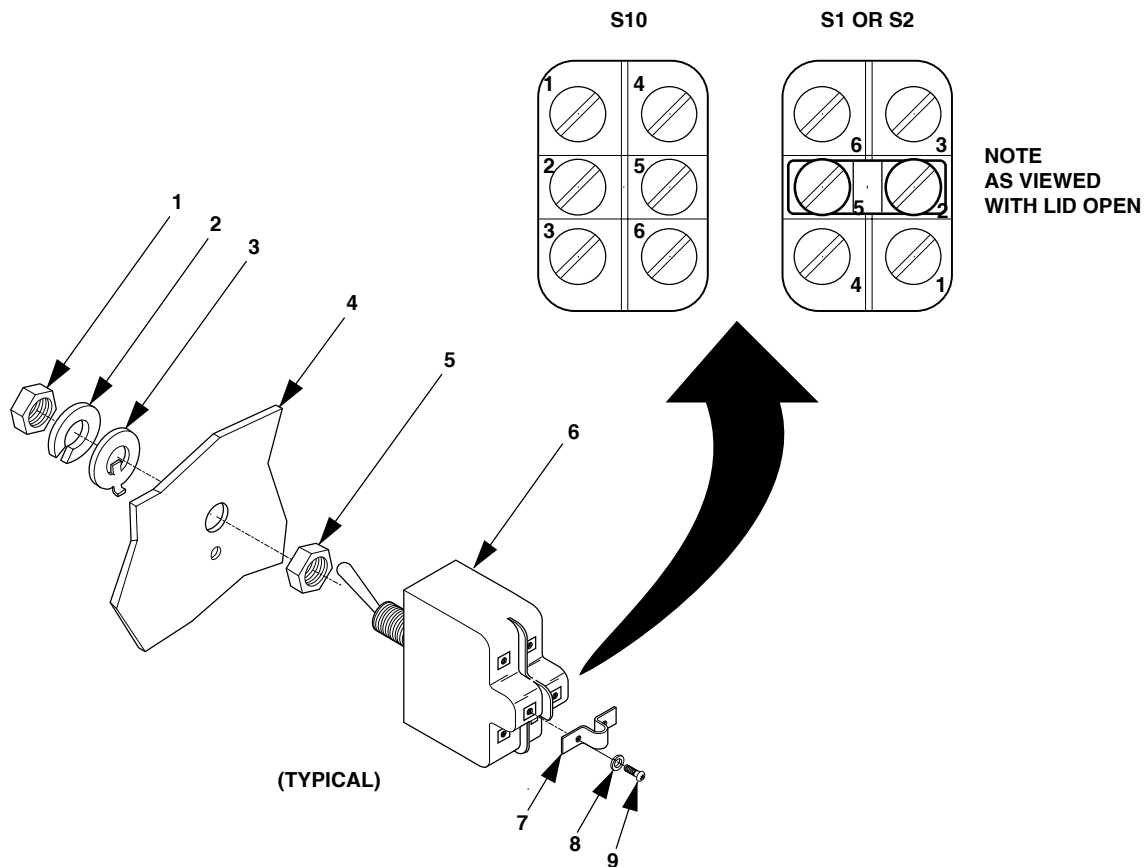

Figure 4-16. Toggle Switch.
1. Tag wires connected to terminals of switch to be replaced and remove screws (9, figure 4-16), flat washers (8), and conductor bus (7), and retain conductor bus (7).
2. Remove hex nut (1), lock washer (2), locking ring (3), and switch 6.